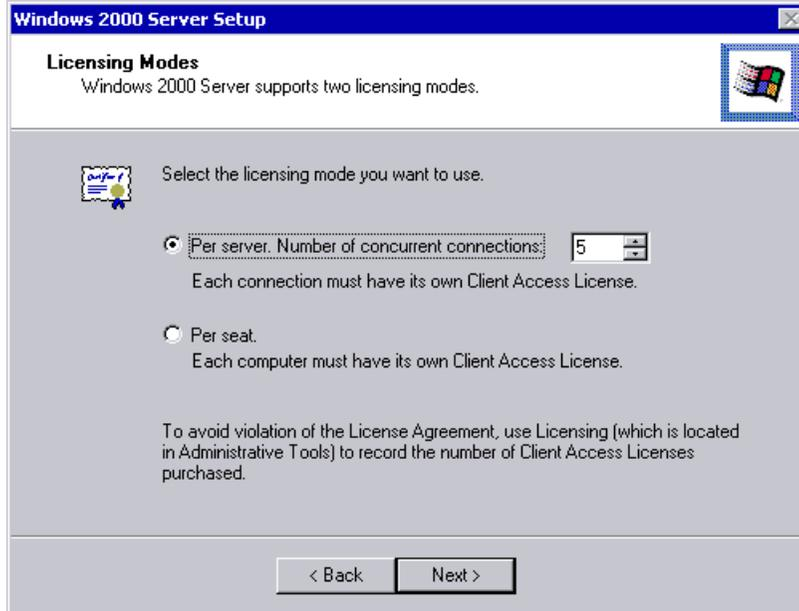

Figure 55. Licensing modes
11. Per server and Per seat licensing are shown in Figure 55: